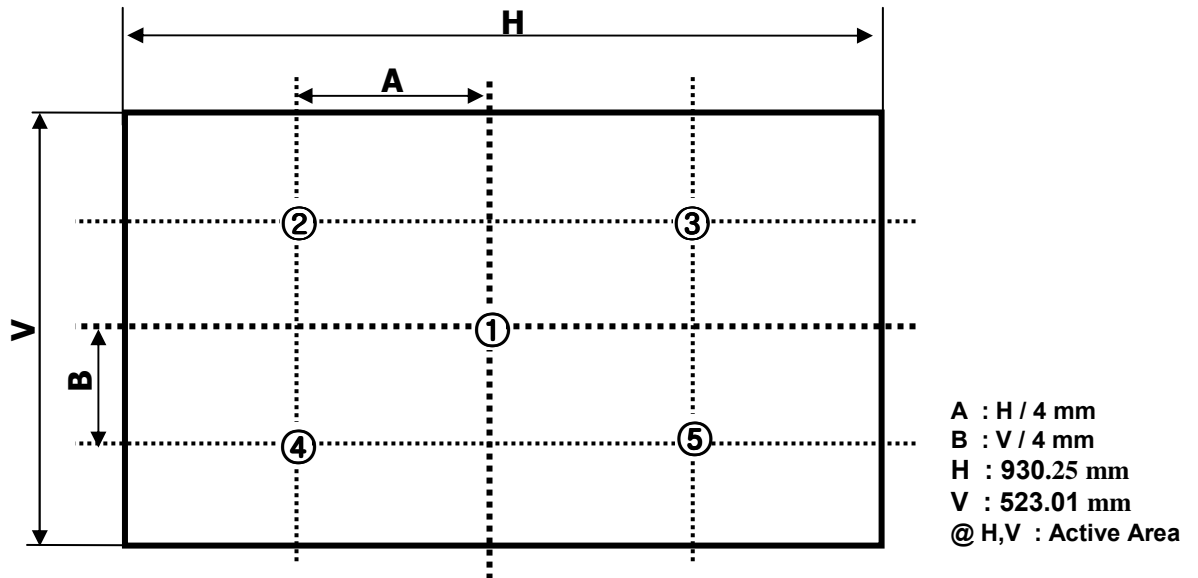

FIG.2 Measure Point for Luminance
n = the Position number(1, 2, 3, 4, 5), For more information, see FIG 2.
2. Surface luminance are determined after the unit has been 'ON' and 30min after lighting the backlight in a dark environment at 25± 2°C. Surface luminance is the luminance value at center 1-point across the LCD surface 50cm from the surface with all pixels displaying white. For more information see the FIG. 2.
Where L_{on1} to L_{on5} are the luminance with all pixels displaying white at 5 locations . For more information, see the FIG. 2.